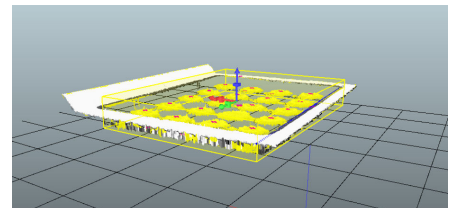

Figure 37: Region of interest for **Blob** tool
8. Move and resize the region of interest for the **Blob** tool to cover only the chocolates. See figure 37.